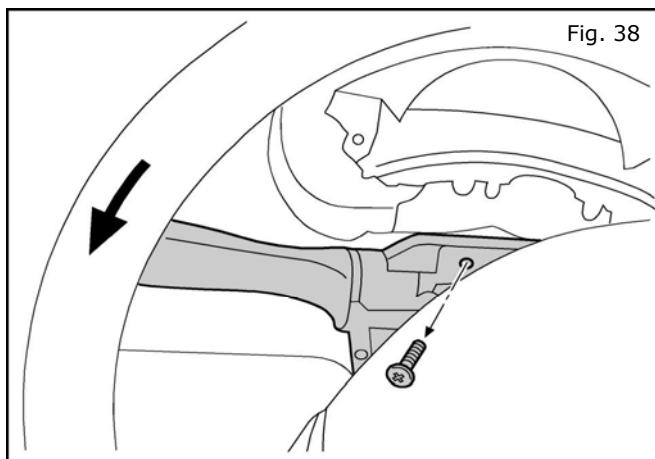

Fig. 38
43. **Reinstall** the upper steering finisher (see Fig. 38).